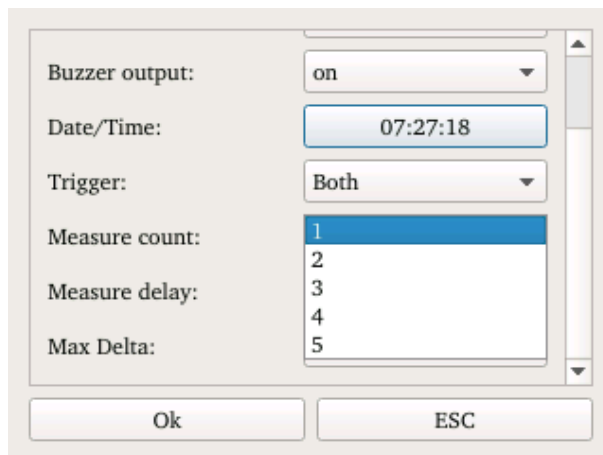

Figure 9: Menu Measure count
- The settings for the lift-off prevention are in the following menus; see Figure 9 to Figure 11.